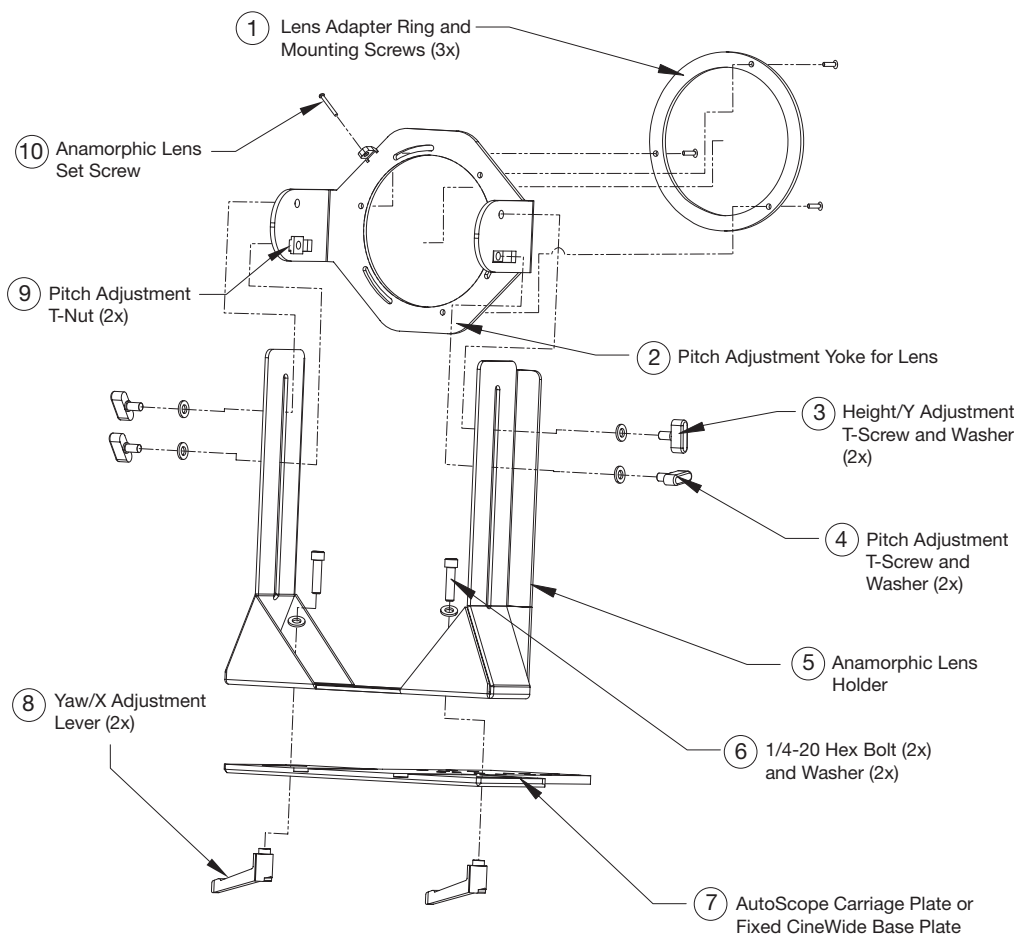

Figure 3-20. Anamorphic Lens Mounting Assembly - Exploded View
The Q-750d Anamorphic lens mount kit consists of everything shown in Figure 3-20. Some components shipped with your projector may differ slightly from what is shown in these instructions. If any items are missing or damaged, please contact your Runco dealer or Runco Customer Service at (800) 23-RUNCO.